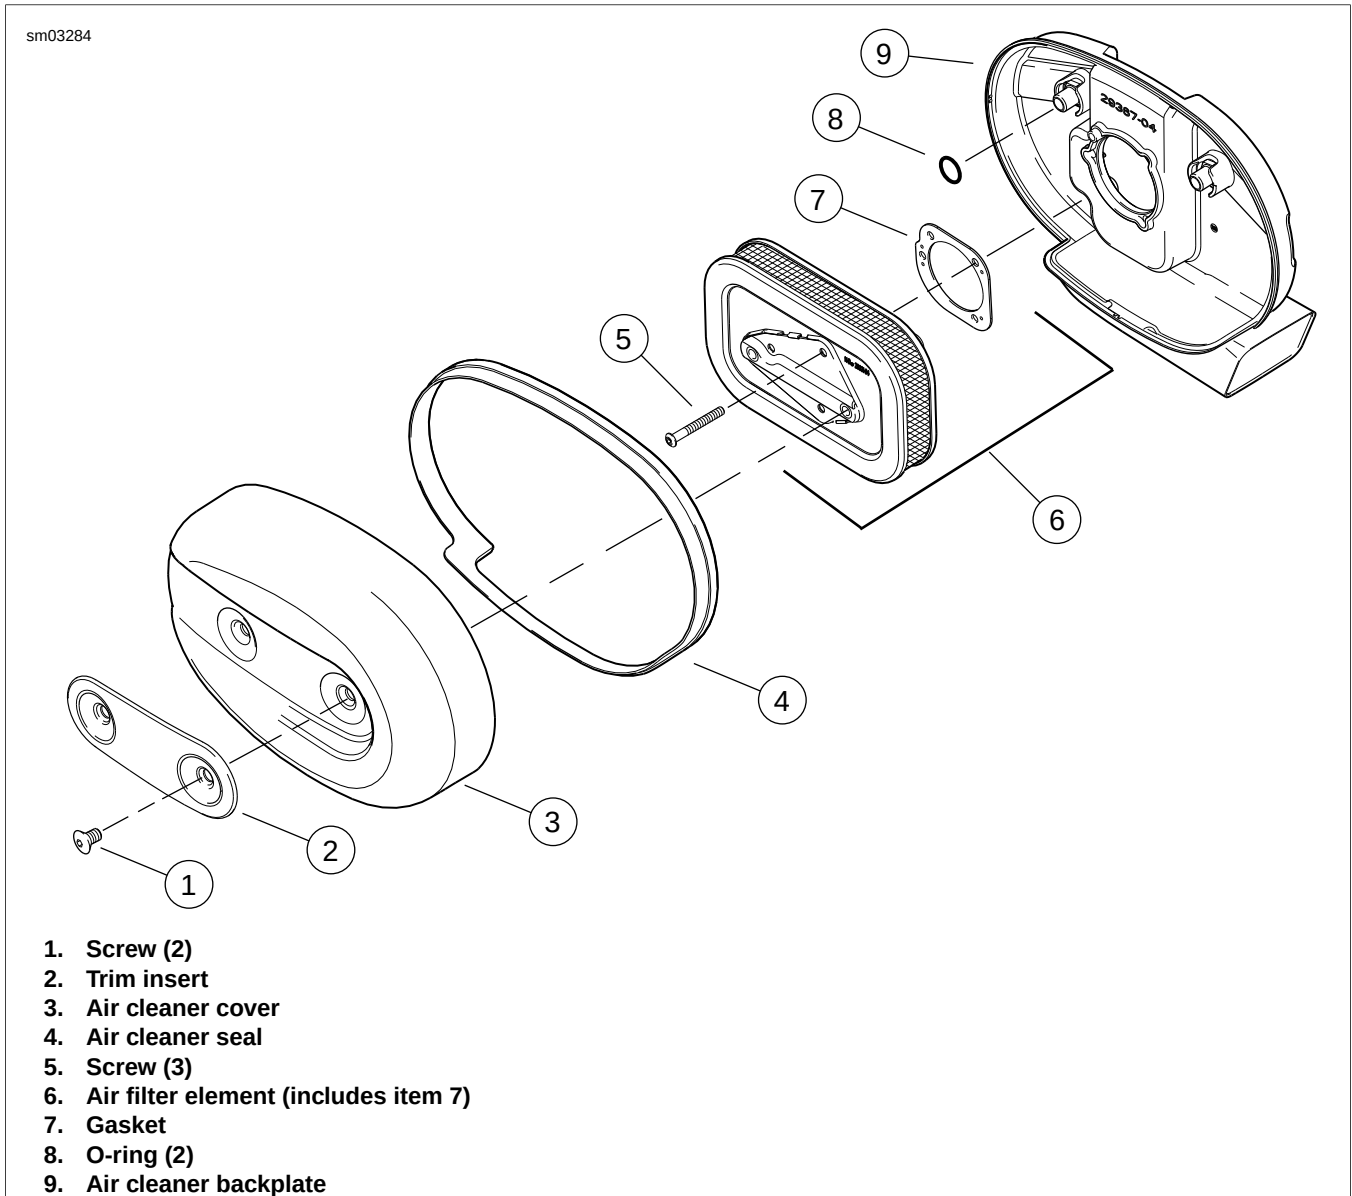

Figure 1-98. Air Cleaner Assembly: XL Models
1. See Figure 1-98. Remove two screws (1) and trim insert (2) from air cleaner cover (3).
2. Remove air cleaner cover from air cleaner backplate (9). Remove air cleaner seal (4) from cover.
3. Remove three screws (5). Remove air filter element (6) and gasket (7) from air cleaner backplate. Discard gasket.
1. See Figure 1-98. Thoroughly clean air cleaner backplate (9) and inside of air cleaner cover (3).
2. If air filter element (6) is damaged or if filter media cannot be adequately cleaned, replace element and proceed to steps below to examine o-rings and air cleaner seal.
1. See Figure 1-98. Apply a thin coat of engine oil or light grease to o-rings (8). This will help prevent them from being damaged when air filter element is installed.
2. Position **new** gasket (7) on air cleaner backplate (9). Make sure gasket holes are lined up with backplate holes.
3. Install air filter element (6) onto backplate. The words "This Side Out" should be readable on the upper edge of the air filter element when installed. Secure with three screws (5). Tighten to 40-60 **in-lbs** (4.5-6.8 Nm).
4. Fit air cleaner seal (4) onto air cleaner cover (3). To ensure proper sealing, make sure air cleaner seal covers entire edge of air cleaner cover.
6. Install trim insert (2) and secure cover assembly with two screws (1). Tighten to 36-60 **in-lbs** (4.1-6.8 Nm).